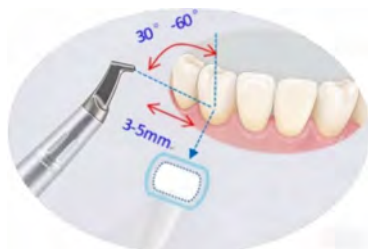

Fig. 1 Supragingival air polishing diagram
3.3.5 During scaling treatment, align the nozzle with the tooth surface. Maintain 3–5mm distance between the air outlet of the nozzle and the tooth surface, and hold the nozzle at a 30°–60° angle to the tooth surface, as illustrated in Fig. 1.